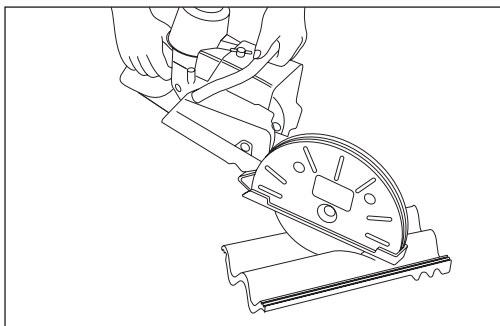
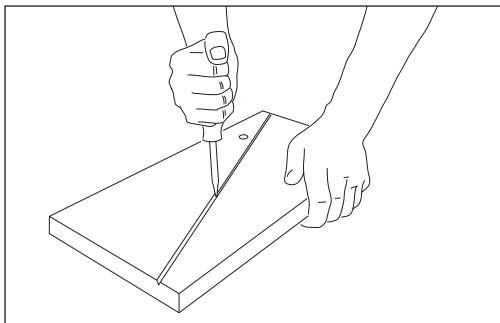
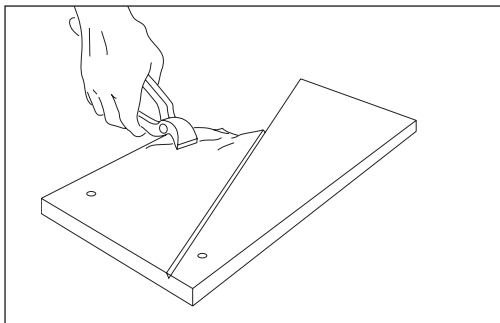

Fig 35 – Use a disc cutter for mitring or cutting tiles to rake
Fig 36 – Scribing tile to be cut
Fig 37 – Cutting tile using pincers
- Tiles cut to rake or mitre in open details, e.g. valleys, external angles, should be trimmed with a disc cutter (Fig 35) or scribed (Fig 36) and cut using hammer/pincers, (Fig 37) to ensure neat finish.